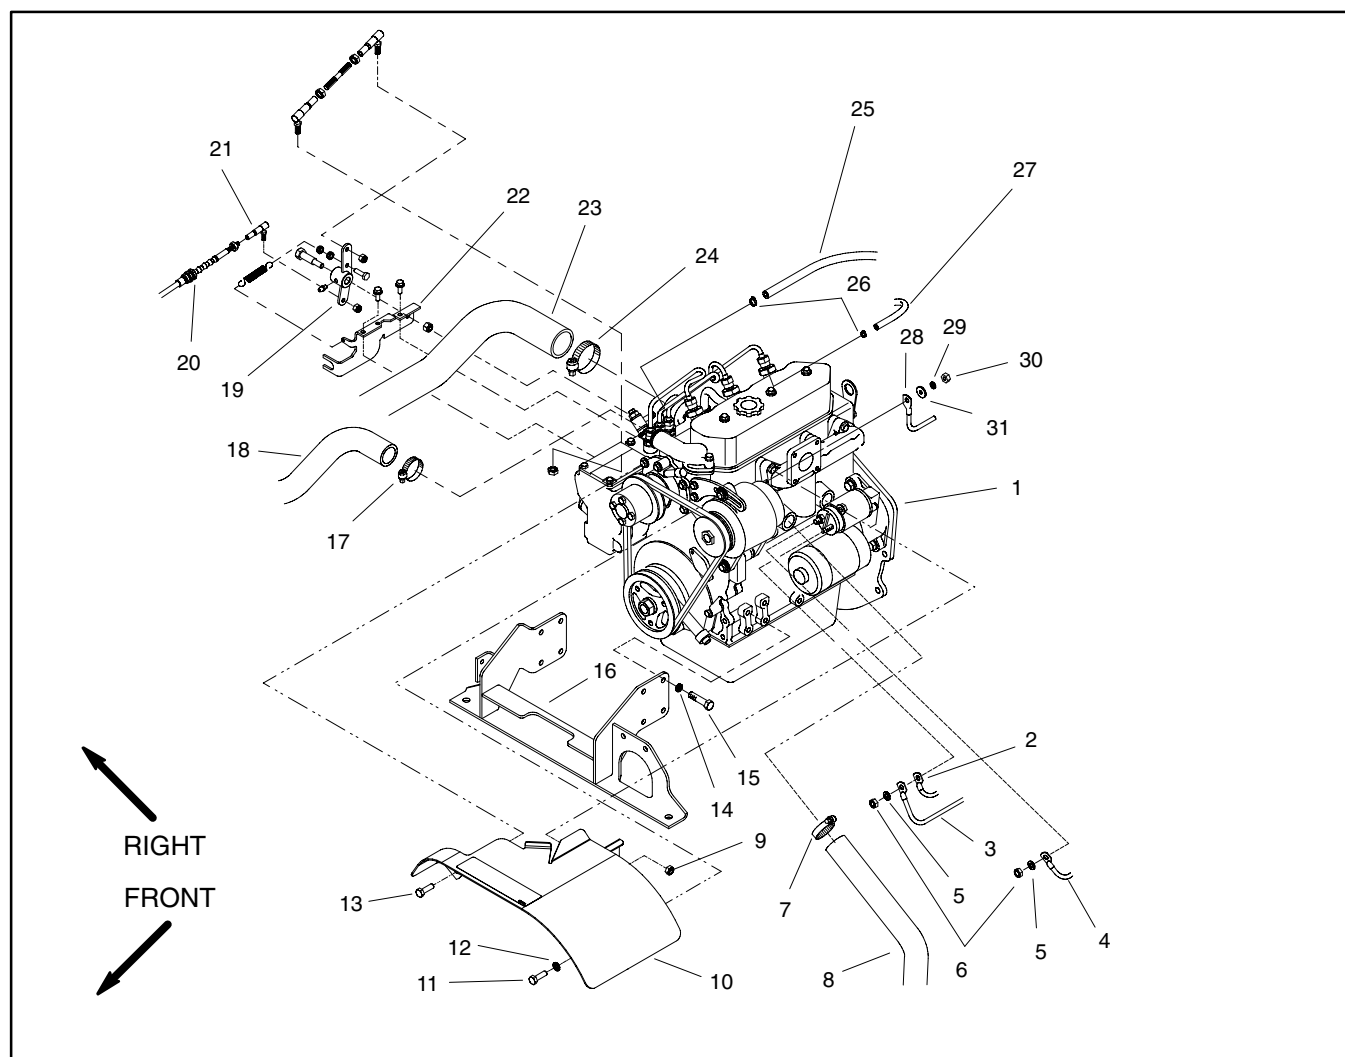

Figure 10
Removal (Fig. 10)
3. Remove exhaust system components as needed using Figure 10 as a guide.
Installation (Fig. 10)
2. If cap screw (item 9) was removed, apply Loctite #242 (or equivalent) to threads during installation.
3. Using Figure 10 as a guide, fit all exhaust components to vehicle before tightening any fasteners. When securing exhaust, tighten fasteners in the following order:
- A. Hex nuts (item 4) that secure exhaust manifold to engine.
- B. Cap screw (item 9) with washer (item 10) that secures muffler to transaxle.
- C. Socket head screws (item 6) and flange nuts (item 8) that secure muffler to manifold.
- D. Cap screws (item 7) and flange nuts (item 11) that secure muffler to shift cable mount bracket.
- E. Carriage bolts (item 12) and flange nuts (item 11) that secure muffler to mount plate.
Engine Removal (Fig. 10)
Engine Installation (Fig. 10)